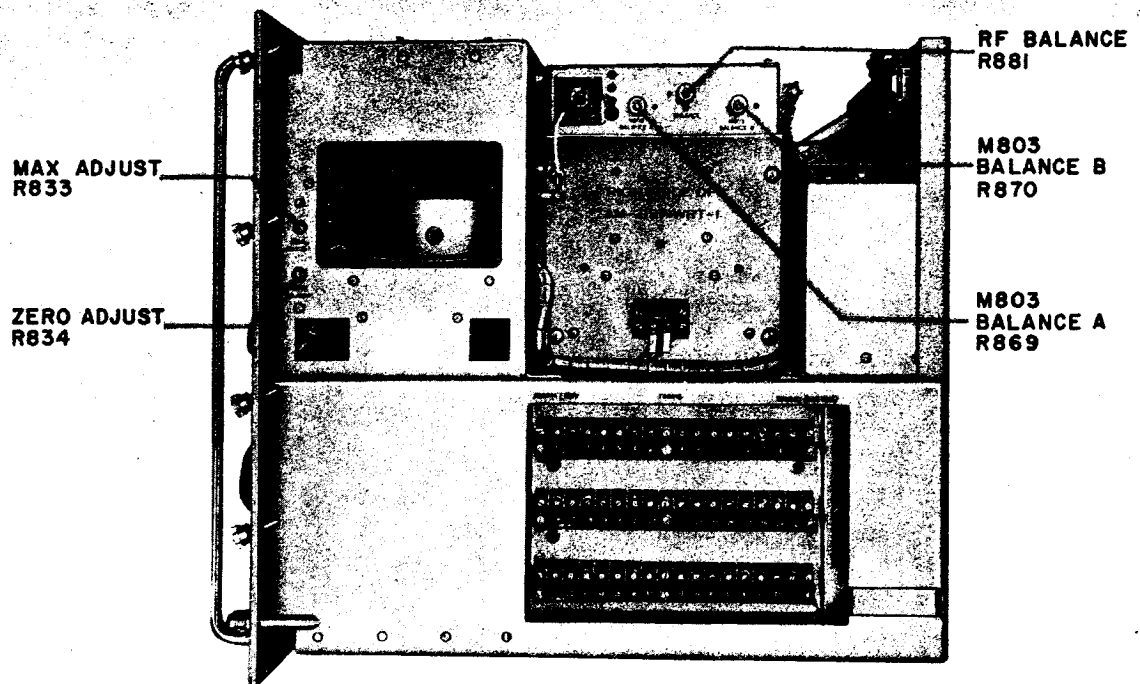

Figure 6-11. Radio Frequency Amplifier AM-2197/WRT-1, Right Side, Electrical Adjustments
(3) PRELIMINARY TEST SET-UP.—Pull out the unit drawer containing Radio Frequency Amplifier AM-2197/WRT-1. Refer to figure 6-11, and locate r-f output jack J802. Remove P182 and connect Electrical Dummy Load DA-91/W Series (or equivalent) to J802. Use T-adaptor UG-569/U at J802 and connect the dummy load to the T-adaptor using an 8 foot length of RG-8/U cable. Do not remove any subassembly cover plates from the unit except when it is necessary to gain access to components or test points mentioned in the adjustment procedure. Engage the drawer interlock.
(5) R-F MONITOR ADJUSTMENTS.—To calibrate the r-f monitor circuit proceed in the following manner:
Step 5. Refer to figure 6-11 and adjust M803 BALANCE B potentiometer R870 for a zero indication on R-F OUTPUT meter M803.
Step 15. Refer to figure 6-11 and adjust M803 BALANCE A R869 and BALANCE B R870 potentiometers.